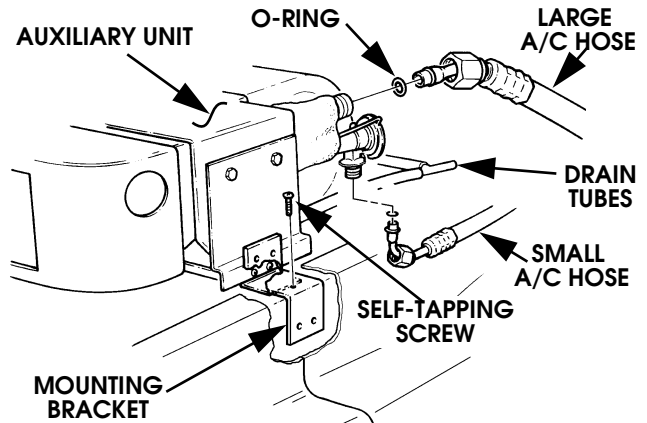

Figure 1-86: Auxiliary A/C Components
1. Install auxiliary unit in vehicle and secure side brackets to tunnel mounting bracket with screws (Figure 1-86).